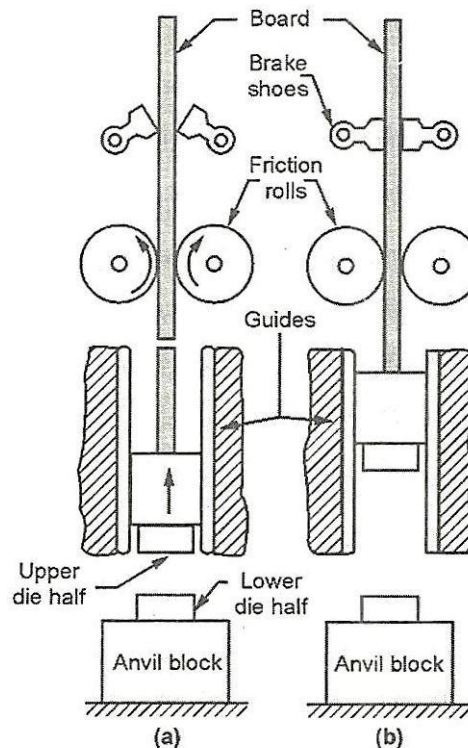

Fig. 3.18 : Drop hammer
- Figure 3.18 shows the working principle of drop hammer.
- The tup carrying upper die half is raised to a suitable height with the help of friction rolls or belt or rope as show in figure 3.18 (a).